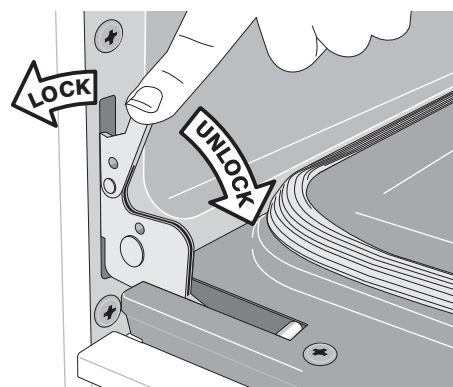

Fig. 2
2. Pull the door hinge locks on both left and right door hinges down from the oven frame completely towards the oven door (See Fig. 2). A tool such as a small flat-blade screwdriver may be required.
4. Push the door hinge locks up towards and into the oven frame on both left and right oven door hinges (See Fig. 2) to the locked position.